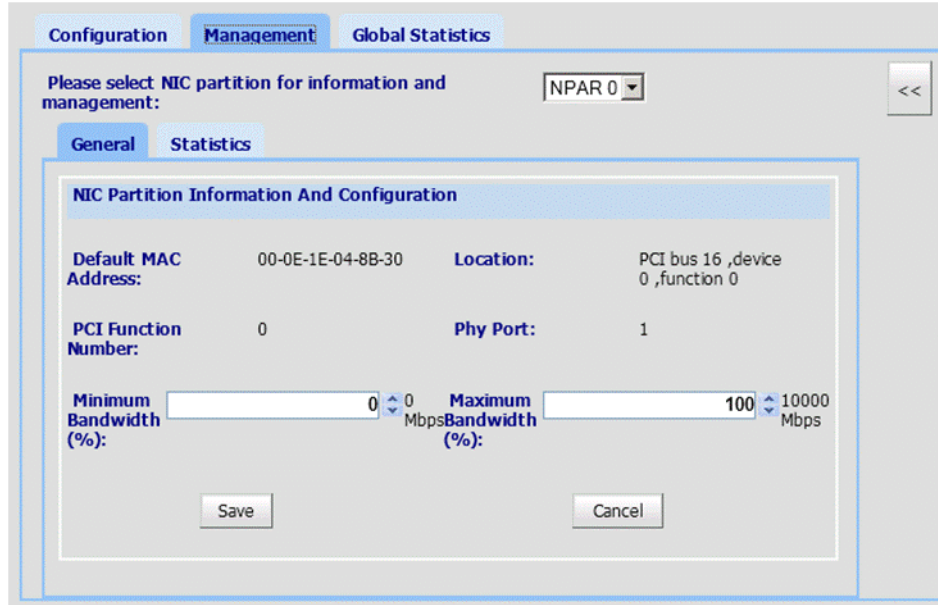

Figure 33: NIC Partitioning—General Management Page
3. Select the **NIC Partitioning** tab, and then click the **Management** sub-tab. The NIC Partitioning Management General page displays configuration details that apply to the selected NPAR (Figure 33).